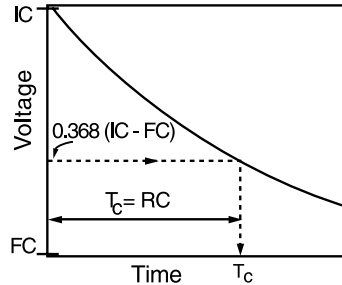

Figure 3
- b. Adjust the scope's horizontal and vertical position knobs and the trigger slope and level so that the waveform is completely visible, but fills the scope face. Line up the start of the exponential waveform with the vertical grid line on the left edge of the scope face. Set the horizontal scale (time base) so the trace looks something like Fig. 3. It is not necessary that you be able to see $5 T_C$; in fact, it is good practice to expand the display so that at least 50% of the scope face is used for measurements (as shown in Fig. 3).
divisions up from the bottom of the CRT (Fig. 3). When the exponential has decayed to 36.8% of the difference between the initial voltage and the final voltage, one time constant has elapsed. Measure this time T_c .